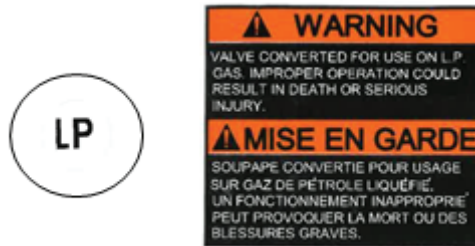

Figure 21: LPG Valve Labelling
1. Confirm that the gas valve is set up for type of gas being supplied to the unit. If the valve has been converted for LPG use it will have labels attached (Figure 21: LPG Valve Labelling). Record results.